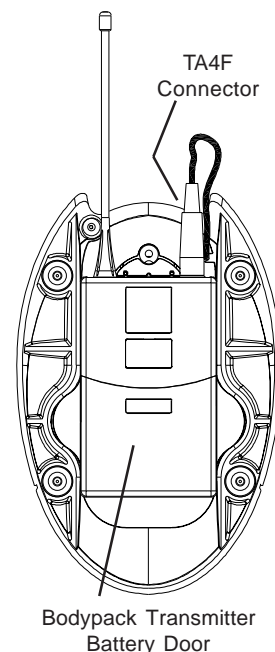

Figure 4: Bottom View with Bodypack Transmitter
- Carefully insert TA4F connector into bodypack (see figure 4).
- Test mic in actual use situation, and set audio gain on bodypack transmitter for optimal gain through wireless system. Note: battery door may be opened to access gain adjustment in bodypack, without removing bodypack from base (see figure 4).